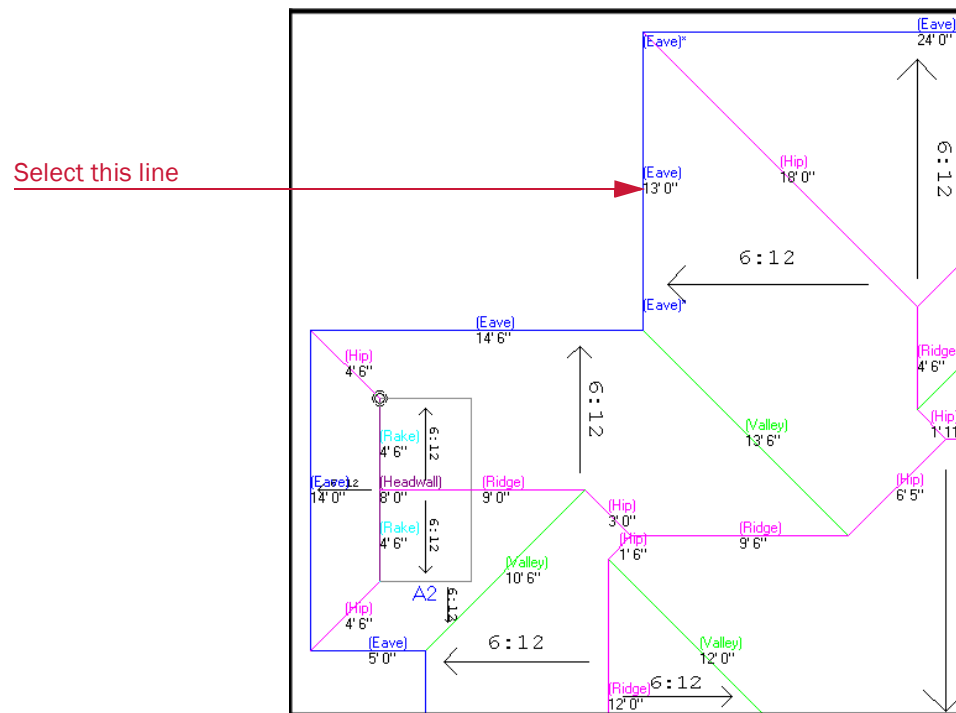

Figure 3-6 Select the eave line
4. Select the eave line as indicated in *Figure 3-6*.